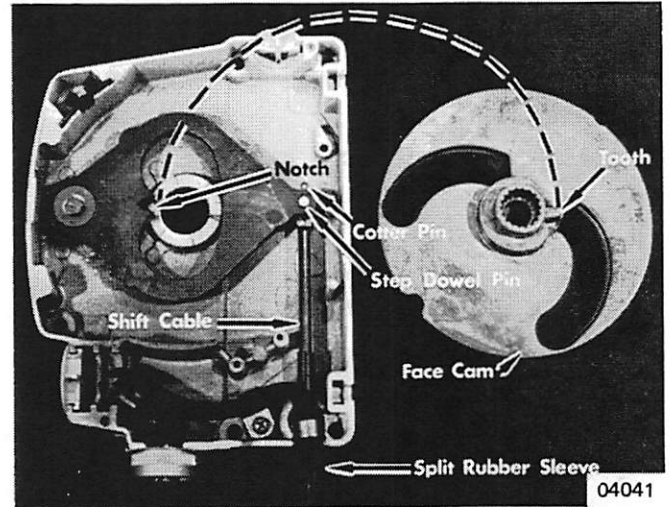

Figure 2. Shift Cable Installation
1. Remove cotter pin and step dowel pin from shift lever. (Figure 2)
2. Place Anti-Corrosion Grease (C-92-45134A1) into cable socket and install shift cable into position. Coat step dowel pin with a thin film of Anti-Corrosion Grease and install step dowel pin thru shift lever cable end. (Figure 2)
4. Place face cam in position over shift lever. Tooth on face cam must fit into notch of shift lever. (Figure 2)
*NOTE: On non-electric installations, position the split rubber sleeve on the shorting switch cable over the ends of the shift and throttle cable brass barrels to keep cables in position. (Figure 2)*